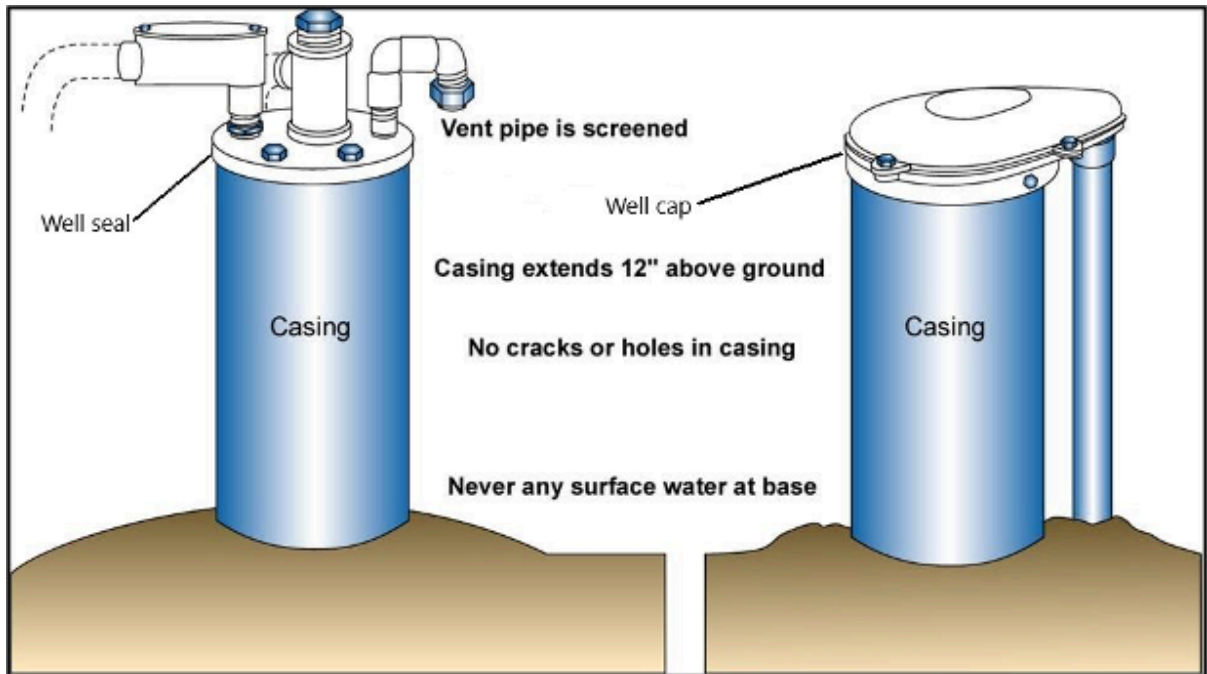

Figure 59. Well seal and well cap terminations
drop pipe with either a well seal or a well cap with pitless adapter (Figure 59).
- Figure 59. “Well seal and well cap terminations” from the United States Environmental Protection Agency is used for non-commercial, scientific and educational purposes.